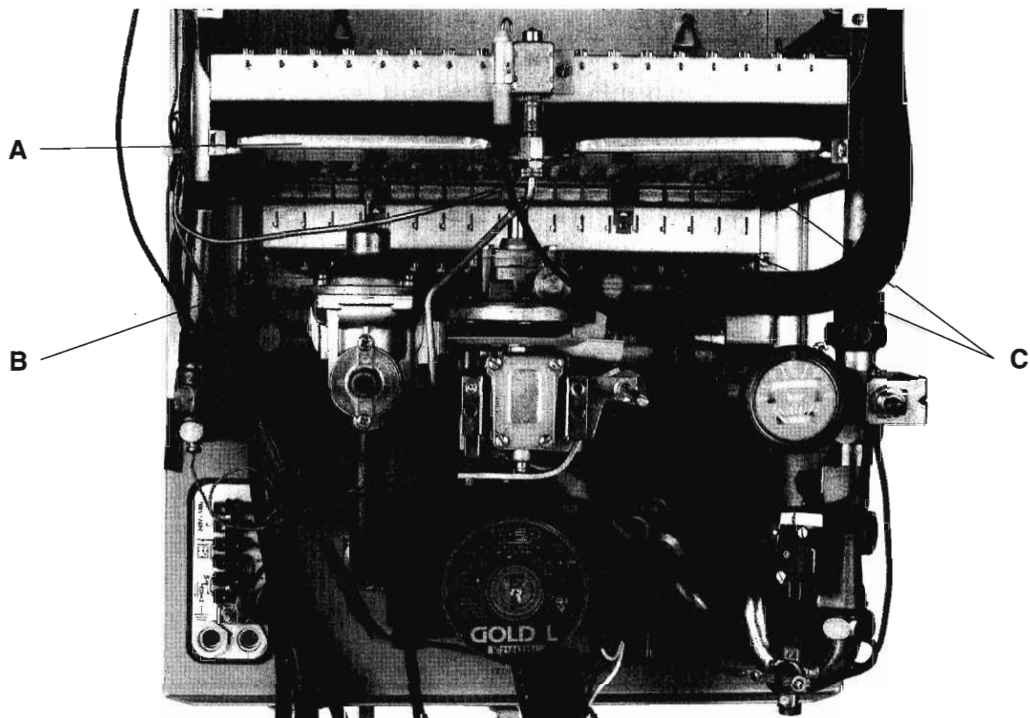

Figure 17
SECTION 7 : TO REPLACE THE BURNER MAIN INJECTORS (Figure 17)
- 7.8. Unscrew the 4 screws E on the modulating valve (Figure 17 bis).
Figure 17 bis